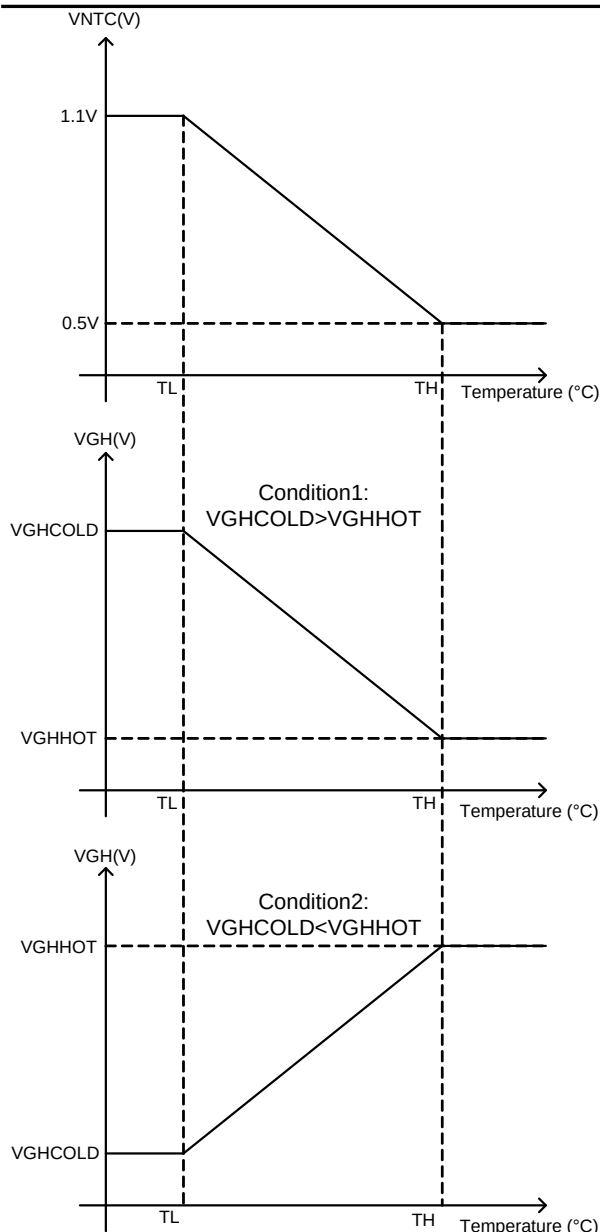

Figure 1. VGH Temperature Compensation Curve
The VGHHOT voltage is set VGH output voltage at TH, and VGHCOLD voltage is set VGH output voltage at TL. The VGH can be temperature compensated, allowing its output voltage to transition from VGHCOLD voltage (TL) to VGHHOT voltage (TH). The G2518 support two kinds of compensation curve. One is the VGHCOLD voltage larger than VGHHOT voltage, another is VGHCOLD voltage smaller than VGHHOT voltage. Temperature compensation curve is shown in Figure 1.